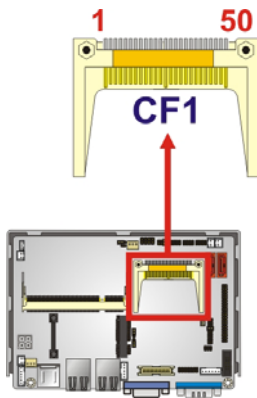

Figure 3-5: CompactFlash® Slot Location
- CN Location:** See **Figure 3-5**